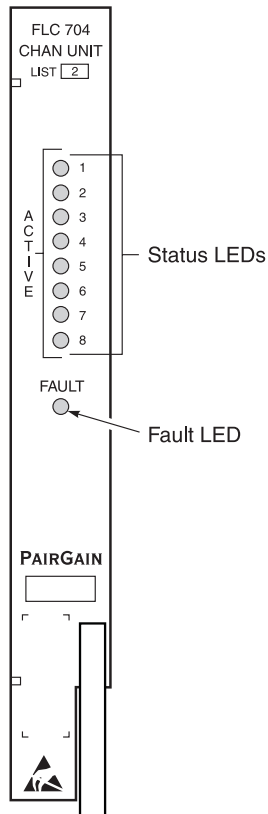

Figure 1. FLC-704 Front Panel
2.1 Figure 1 shows the FLC-704 front panel. Table 1 lists the different states and indications for the FLC-704 Channel Unit front panel LEDs.